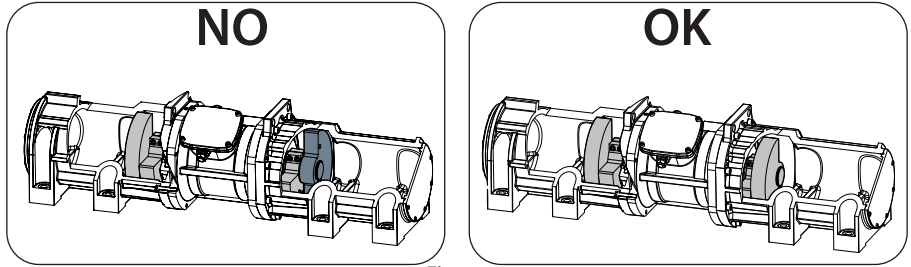

Fig.1c
- The masses must be adjusted so as they have the same rotation direction on the two ends (see Fig.1c).